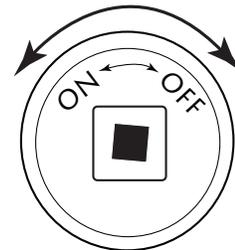

Fig. 12 Key Valve Face
1. Insert key into shut-off valve and secure into square end (See Figs. 12 & 13).